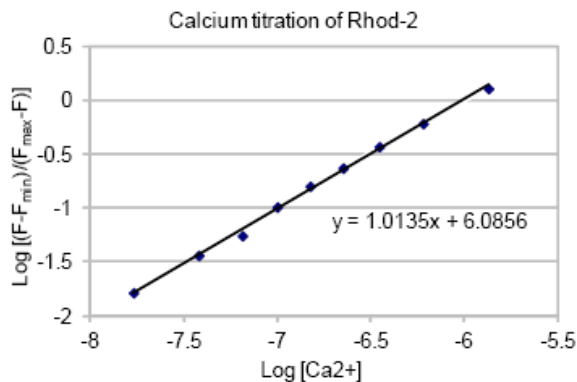

Figure 1. Example of a calcium calibration curve for Rhod-2 ($K_d = 1 \mu\text{M}$).
8. Plot $\log\{(F-F_{\min})/(F_{\max}-F)\}$ vs. $\text{Log}[Ca^{++}]$. Make sure that the unit of $[Ca^{++}]$ is in M. The X-intercept from the linear plot is $\text{Log}K_d$ (M). See Figure 1 for an example.